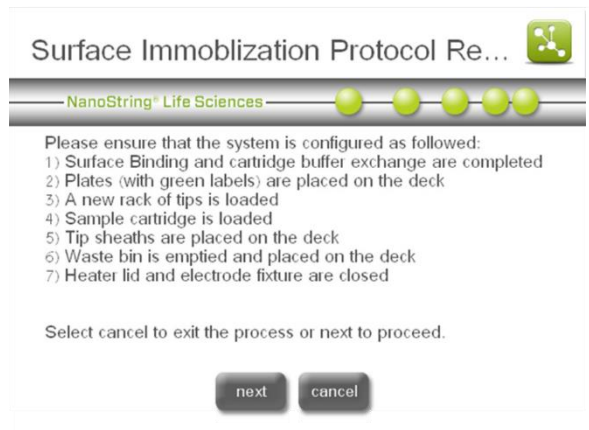

Figure 136: The 'Surface Immobilization Protocol Recovery' instructions.
2. Instructions will appear on the next screen (**Figure 136**). Follow the instructions on the touchscreen to configure the system for the surface immobilization protocol.